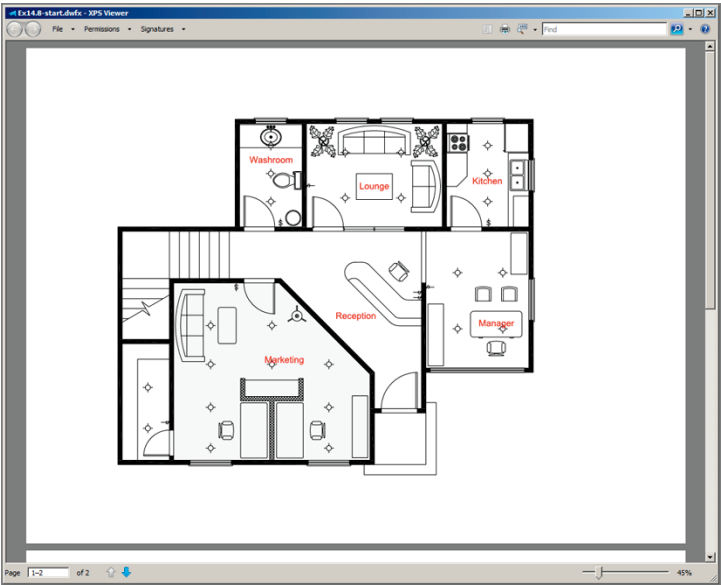

FIGURE 14.24 DWFx drawing displayed in Internet Explorer
- 3. Double-click the Ex14.8-start.dwf file on your hard drive. After a few moments, the vector drawing appears in the XPS Viewer, a program that is part of the Windows operating system. Drag the slider to the left at the bottom of the interface to zoom out (see Figure 14.24).